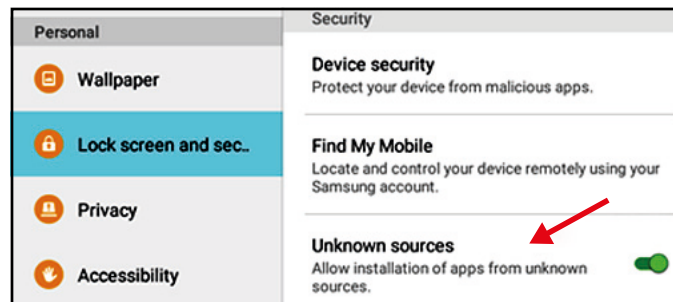

Figure 55: Security Settings
2. In the tablet settings, enable the security option to allow the installation of software from “Unknown sources” for this installation only (see *Figure 55* below).